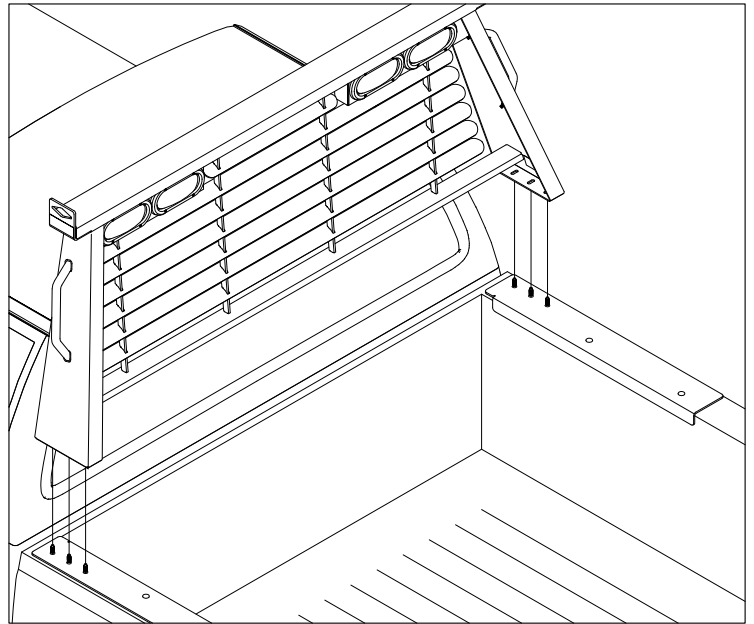

FIGURE B1
1. **Install Cab Protector.** Position the slots on the bottom of the cab protector over threaded studs on the bed protectors, See figure B1. Fasten the cab protector with the provided 3/8" Large flat washers, lock washers, and finish nuts. Do not fully tighten. Make sure the cab protector is centered with the truck as viewed from the rear.